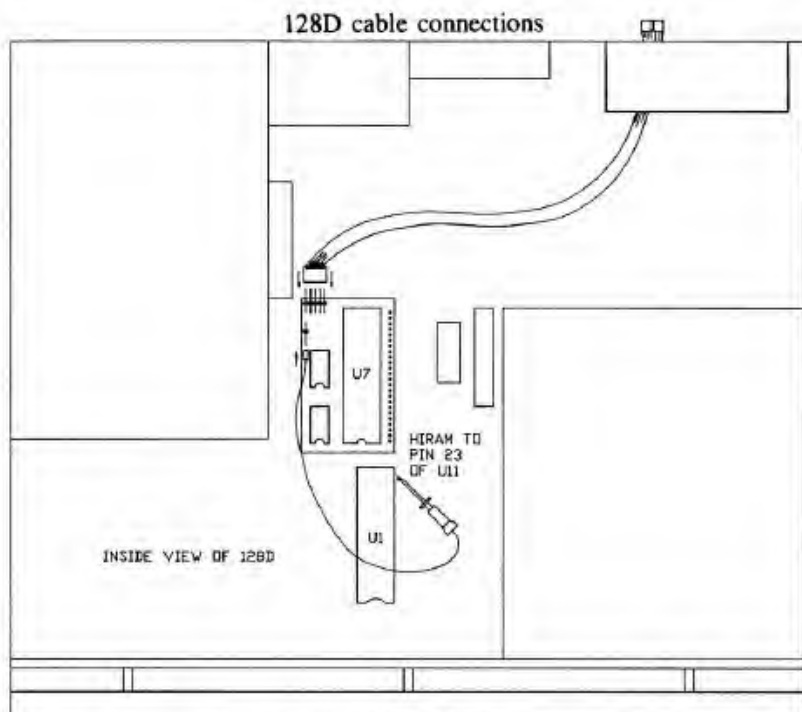

**FIG 10**
**Step 4** - Locate U7 on the mother computer board. Refer to FIG 10. Gently remove this chip from its socket by inserting a small flat blade screwdriver as shown and then carefully rotate or twist the blade left and right. DO NOT USE A PRYING ACTION! Once removed, check all pins for straightness, and proceed to the next step.